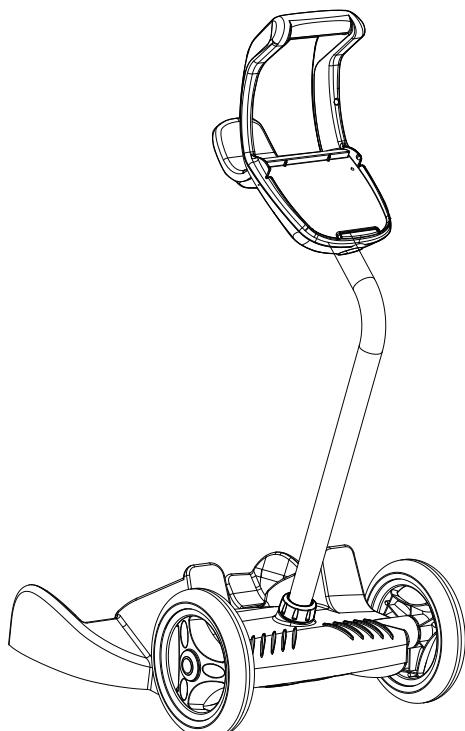

**Figure 5. Snap in Support Blocks and Attach Wheels**
- Snap two (2) support blocks into place (Figure 5).
- Slide axle and hubcap piece through center of wheel and attach to base unit. Snap locking clip into place to secure wheel. Repeat to attach both wheels (Figure 5).